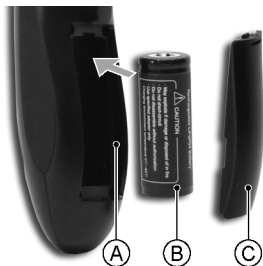

Figure 4: Inserting the battery in the rear part of the clippers.
2. Unclip the battery cover (see Figure 4).
8. Remove the battery casing cover (Figure 4, C). Remove the battery from the casing (Figure 4, A), if one is present, and insert the charged battery (Figure 4, B) instead, making sure that the + terminal is inserted the right way round (terminal uppermost). Put the cover (Figure 4, C) back on.